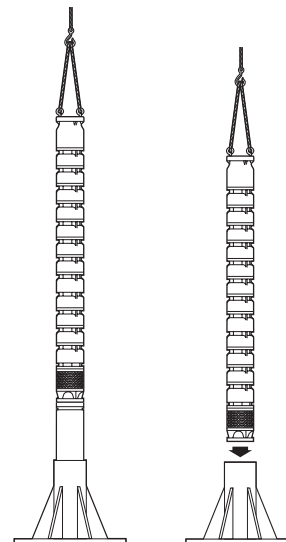

Fig. 3
**When lifting and placing the pump be sure of its stability before releasing the lifting equipment (fig. 3).**